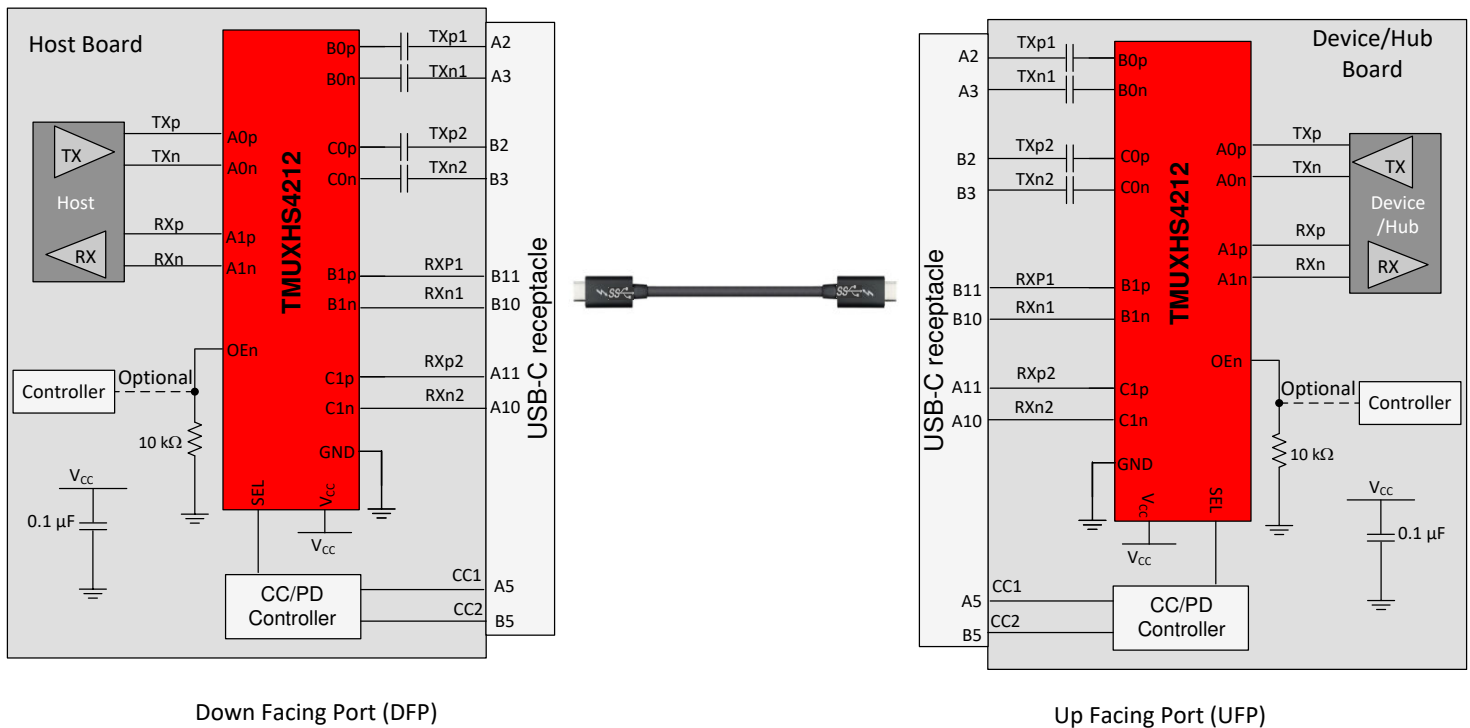

图 9-2. USB 3.2 Implementation for USB Type-C Connector
The TMUXHS4212 can be used in USB Type-C implementation to mux USB 3.2 superspeed signals (TX1 and RX1 pairs versus TX2 and RX2 pairs) to accommodate plug flips. In typical use cases, the mux selection is done by a USB Type-C Channel Configuration (CC) or Power Delivery (PD) controller. The device can be used on a USB Type-C DFP, UFP, or DRP port. 图 9-2 shows two USB Type-C connector applications with both a host and device side. The cable between the two connectors swivels the pairs to properly route the signals to the correct pin. The other applications are more generic because different connectors can be used.
| $R_{BIAS}$ (图 9-2) when needed       | 1 k $\Omega$ to 100 k $\Omega$ |